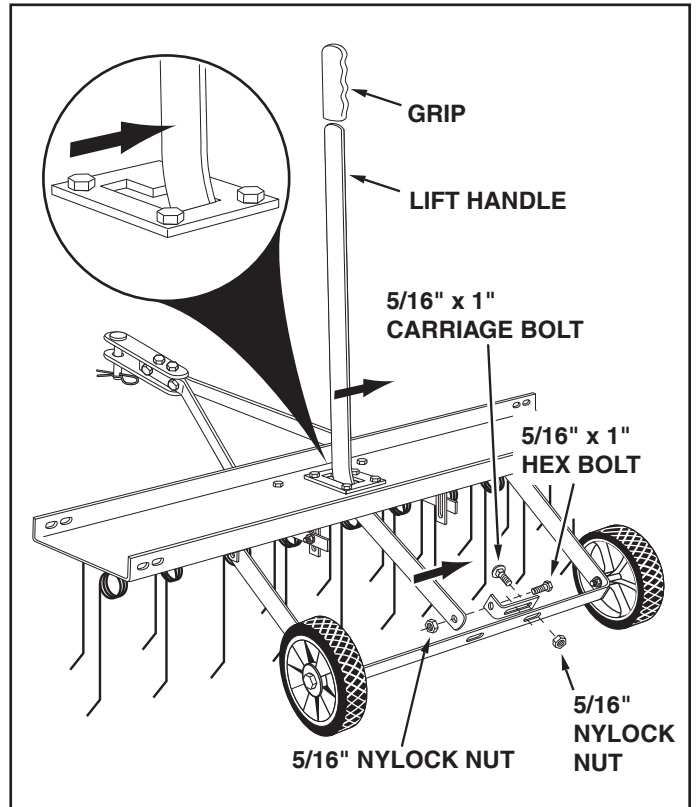

FIGURE 8
14. Assemble a hitch arm mount bracket to the axle bracket using two 5/16" x 1" carriage bolts, and 5/16" nylock nuts. **Do not tighten yet**. See figure 8.
15. Insert the lift handle down through the tine shield. Attach it to the just assembled hitch arm mount bracket using a 5/16" x 1" hex bolt and a 5/16" nylock nut. **Tighten**. See figure 8.
16. Position the hitch arm mount bracket so that there is side tension on the lift handle when it is locked in the up position. **Tighten** the nuts. See figure 8.
17. Assemble the grip onto the end of the lift handle. See figure 8.